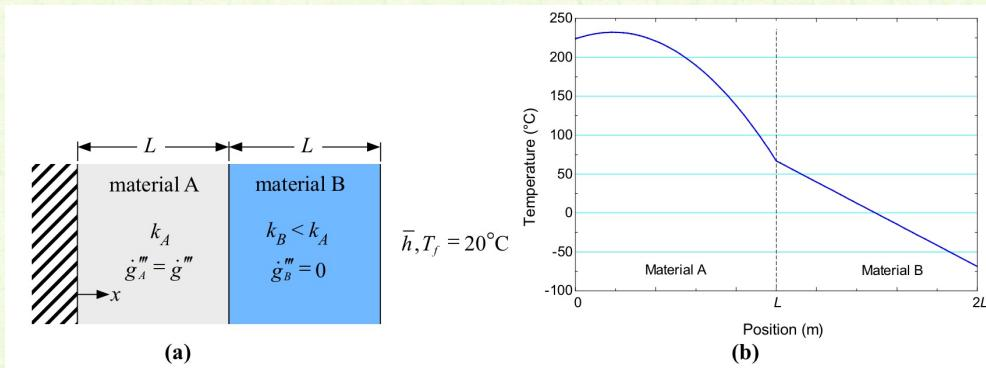

Figure P1.3-3: (a) Heat transfer problem and (b) "solution" provided by the engineer.
1.3-3 (1.7 in text) One of the engineers that you supervise has been asked to simulate the heat transfer problem shown in Figure P1.3-3(a). This is a 1-D, plane wall problem (i.e., the temperature varies only in the x -direction and the area for conduction is constant with x). Material A (from $0 < x < L$) has conductivity k_A and experiences a uniform rate of volumetric thermal energy generation, \dot{g}''' . The left side of material A (at $x = 0$) is completely insulated. Material B (from $L < x < 2L$) has lower conductivity, $k_B < k_A$. The right side of material B (at $x = 2L$) experiences convection with fluid at room temperature (20°C). Based on the facts above, critically examine the solution that has been provided to you by the engineer and is shown in Figure P1.3-3(b). There should be a few characteristics of the solution that do not agree with your knowledge of heat transfer; list as many of these characteristics as you can identify and provide a clear reason why you think the engineer's solution must be wrong.